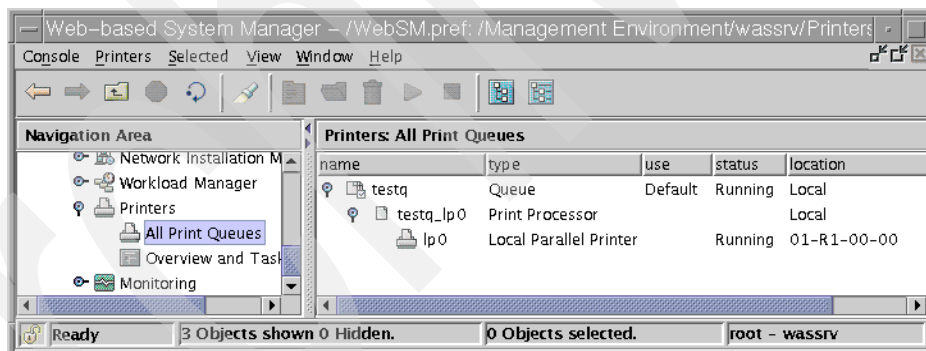
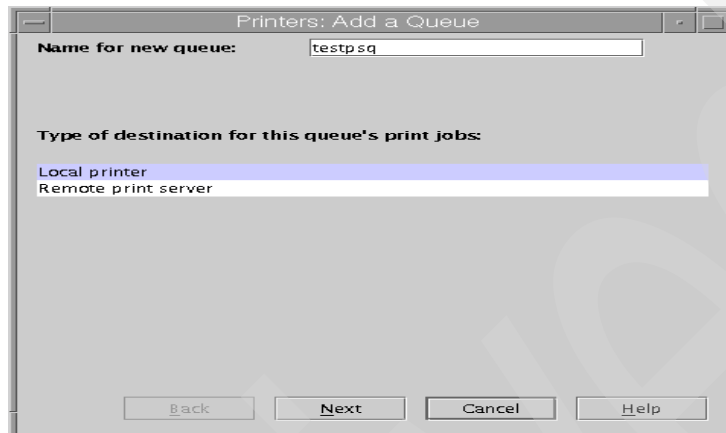

Figure 35. Checking the first created queue
Figure 36. Selecting a type of destination for the second queue
14. Now, you can see a new queue in the right frame of the Web-based System Manager panel, as shown in Figure 35.
The easiest method is to add a queue to a file in the /dev directory and simply specify the file name of the device created in the previous section. In this example, we have used Printer Advanced Dialog. In panel shown in Figure 35 on page 213, select **Printers->New->New Queue and Printer Advanced dialog**. The panel shown in Figure 36 will be displayed. Type a name for the new queue and select **Local printer**. Click **Next**.